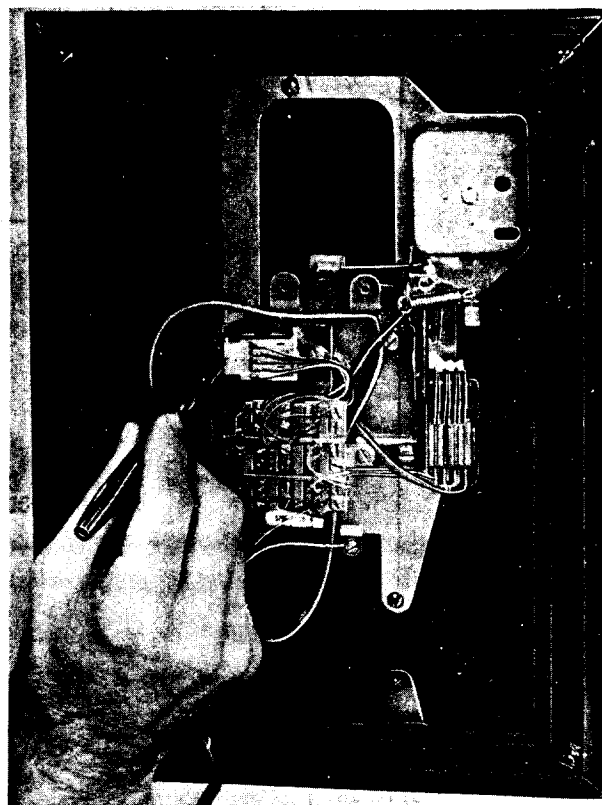

Fig. 8—Method of H4DB Handset Cord Removal and Lo-
- 5.04** To release the H4DB handset cord plug (Fig. 8), use a KS-21107 type releaser or equivalent.